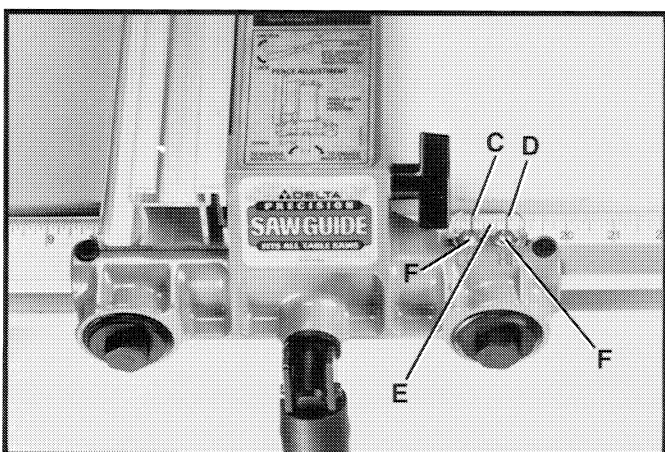

Fig. 73
5. The distance the fence is positioned away from the blade is indicated by the two witness lines (C) and (D) Fig. 73, located on the cursor (E). The witness lines (C) and (D) indicate the distance the fence is positioned away from the saw blade. Witness line (C) indicates the distance the fence is away from the blade when the fence is in the horizontal (low) position. Witness line (D) indicates the distance the fence is away from the blade when the fence is in the vertical (high) position. If it is necessary to adjust cursor (E), make a test cut with the fence in either the vertical or horizontal position, measure the distance of the finished cut and move the cursor (E) by loosening the two screws (F) Fig. 73. After adjustment is completed, tighten the two screws (F).